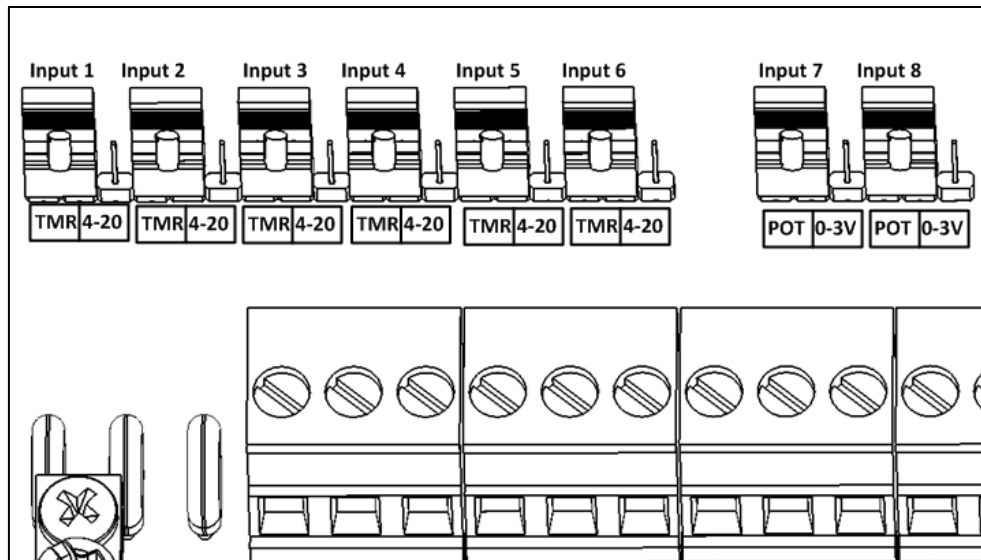

Figure 14: Jumper Positions
- Analog 1 (8): Various functions.
- Analog 2 (9): Various functions
- Vpot (10), connected to obtain inlet feedback potentiometer voltage.
2. Place the jumpers in the corresponding position (Figure 14).